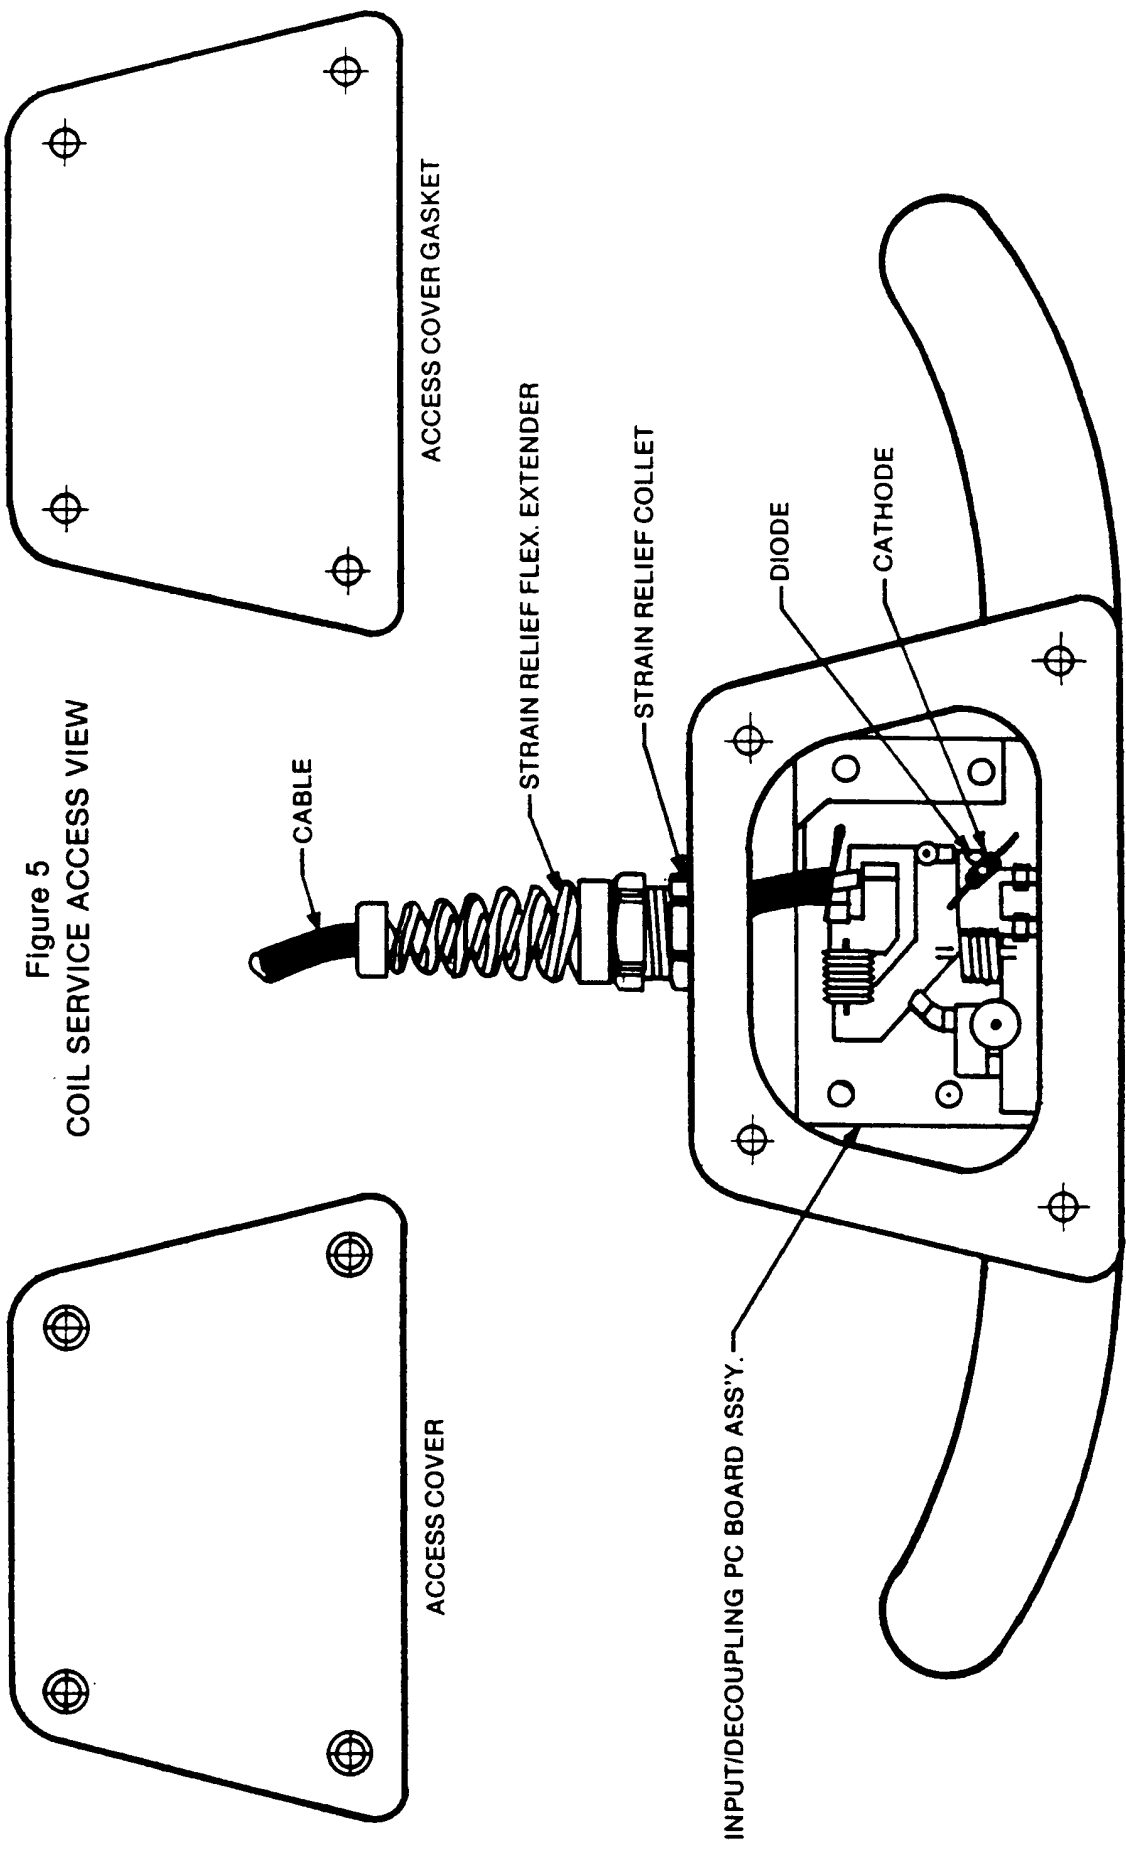

Figure 5
- Remove the nylon screws from the access cover on the coil (Fig. 5)
- Solder the cable connections to the ID/PC Board per Figure 5. Remove any excess flux by scraping. **DO NOT USE SOLVENTS.**
- Reference Figure 5 for this procedure.
- Position the diode in the cut out slot. Refer to Figure 5 for proper orientation of the anode.